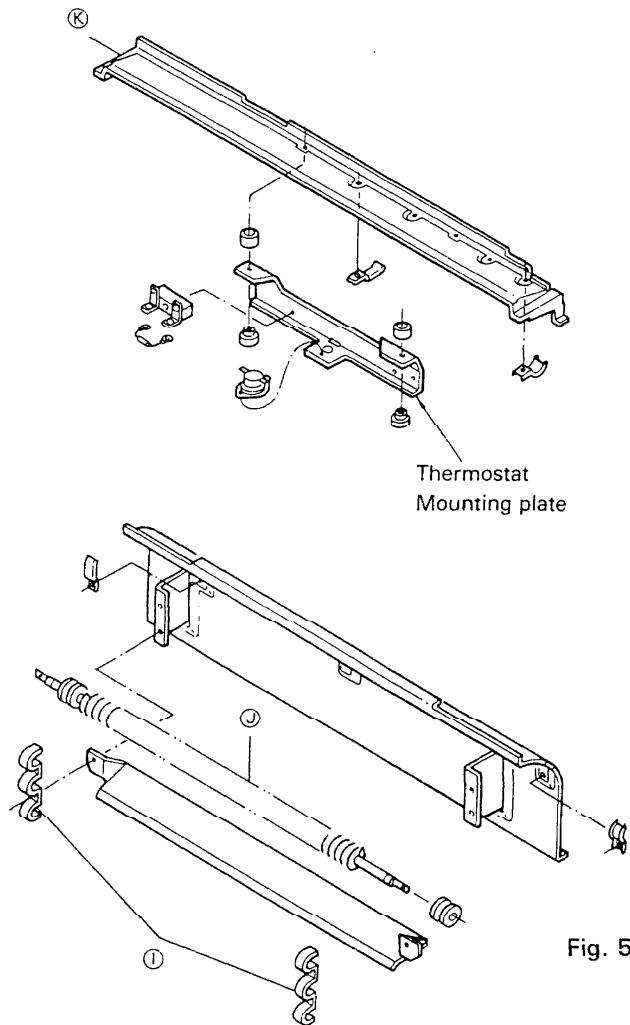

Fig. 5
- 2) Remove the thermostat mounting plate after removing the screws at the right and the left. Fig. 5
- 3) Remove the screws of the heater mounting plate  $\textcircled{I}$ , and separate the installation fittings from the heater. Fig. 5